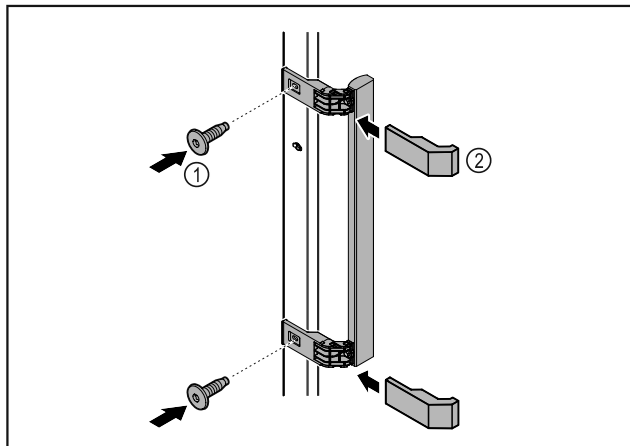

Fig. 9
- Attach handle from accessory kit to the door using the screws supplied Fig. 9 (1).
- Put on cover Fig. 9 (2).